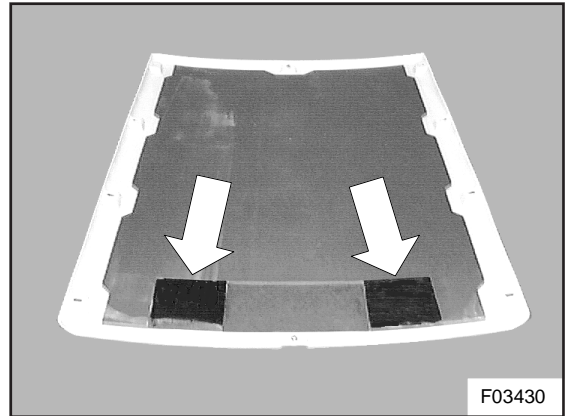

Figure 2: Glueing the cover plate insulating strips on the air intake flap side
4. Glue the three selfadhesive cover insulating strips to the inside of the lid as indicated in figure 2 and allow to cure.